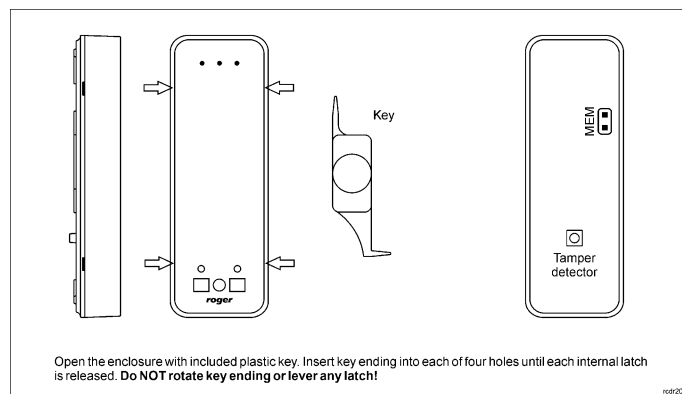

Fig. 2 Enclosure opening and location of service contact
**Note:** Remote configuration of device from VISO v2 software is possible only if jumper is placed on MEM contacts (fig. 2). If the jumper is removed then such configuration is blocked. In case of factory new device, jumper is placed on MEM contacts.
In RACS 5 v2 system the reader can be installed at site without previous configuration. According to AN006 application note, its address and other settings can be configured from VISO v2 management software and during such configuration the access to its service contacts (fig. 2) is not required.
2. Remove jumper from MEM contacts (fig. 2) if it is placed there.
2. Place jumper on MEM contacts (fig. 2).